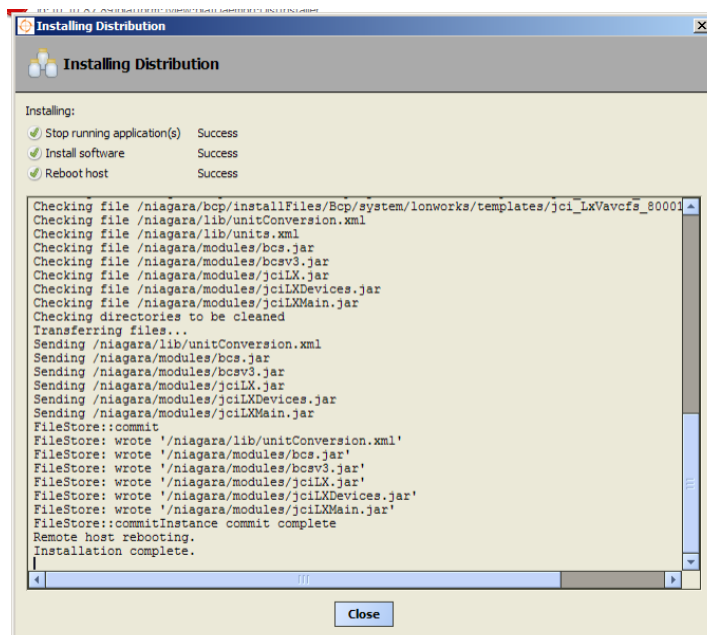

Figure 12: Progress Window
3. Click **Finish**. The Distribution File Progress window appears (Figure 12).